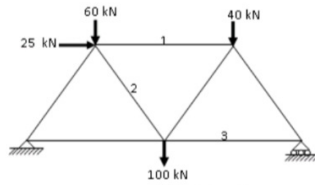

Fig.1
1. A plane truss, made up of equilateral triangles of side 3 m, is supported and loaded as shown in Fig.1. Using the method of sections, determine the forces in the members 1, 2 and 3. [15]